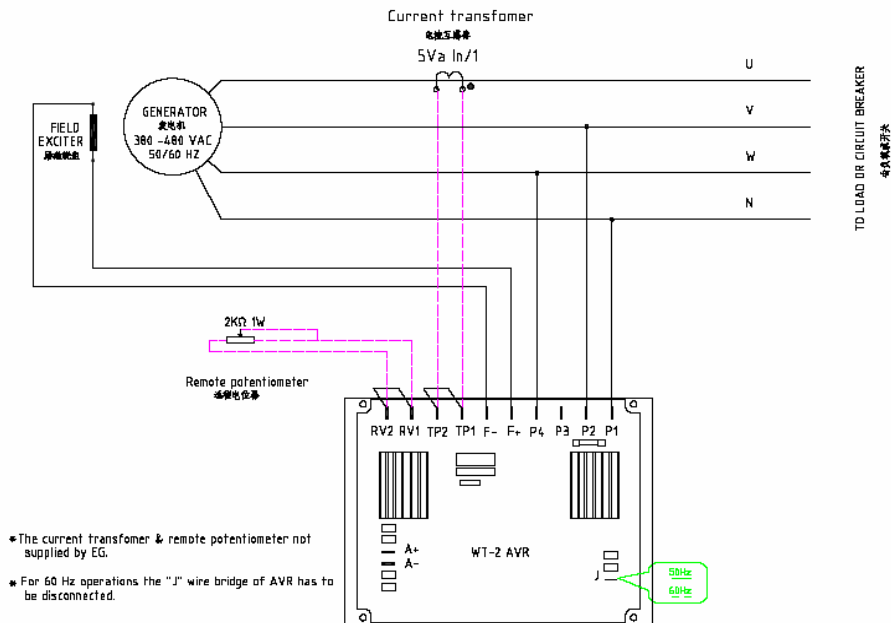

Fig. 2 Connection of WT-2 in 400VAC system
When it is required to operate the regulator in parallel with an isolated or utility bus, in addition to the regulator provisions, a 5 VA current transformer (CT) is required (See Figures 2 and 3.) This CT is connected in a generator U line and should deliver from TP1 to TP2 amperes secondary current at rated load. The phase relationship of CT signal to the regulator sensing voltage must be correct or the system will not parallel properly. The CT must be installed in the U line of the three-phase generator. That does not supply sensing to the regulator.
Figures 2 and 3 show the correct CT polarity for A-B-C phase rotation sequence. If the phase rotation sequence is A-C-B, the CT's secondary leads must be interchanged.